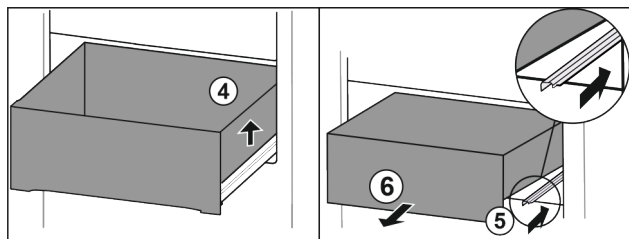

Fig. 17
- ▶ Lift drawer on the right. Fig. 17 (4)
- ▶ Insert right rail. Fig. 17 (5)
- ▶ Remove drawer to the front. Fig. 17 (6)